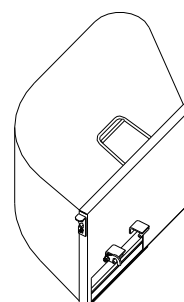

FIG 2
- **Grass Catcher Assembly (WY32-NGC):** 80L, see FIG 2.